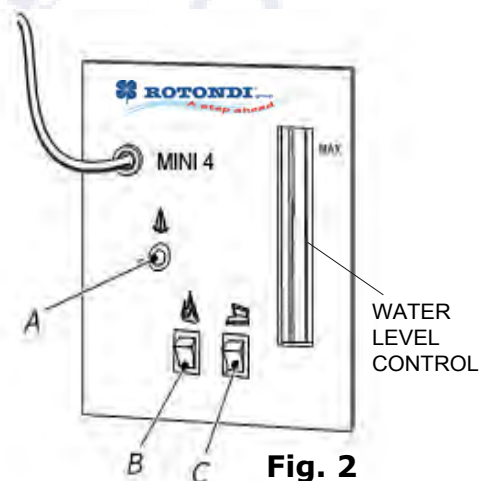
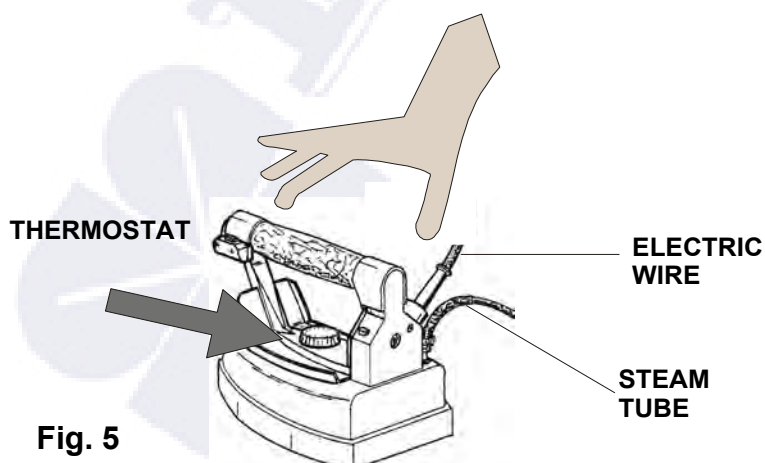
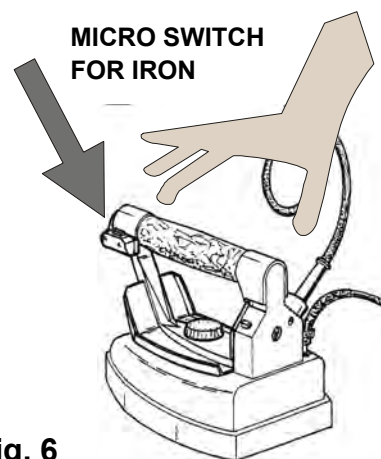

Fig. 2
Fig. 5
Fig. 6
3. Switch on the boiler (fig. 2 B), the iron (fig. 2 C) and adjust the thermostat (fig. 5) on "cotton".
4. Wait for the boiler lamp to switch off (fig. 2 A).
At this point seize the iron by cork handle and press red button 3 or 4 times (fig. 6), so that steam comes out: this operation must be carried out in order to heat up the tubes which take steam to the iron. In this way you prevent also the falling of small drops of water on garments.
To adjust steam flow, you must work on the hand-wheel for steam adjustment (fig. 3). During ironing operation, the boiler lamp switches on and off (fig. 2 A).
1. Run the iron on garments, pressing the iron microswitch (fig. 6) for steam. For a better result, set the thermostat (fig. 5) on "cotton".
4. For dry ironing it is possible to adjust the thermostat (fig. 5) on different positions according to the type of fabric (look at garment label). For steam ironing set the thermostat on "cotton" or "linen".
During the ironing, if steam flow decreases considerably and then ends definitely, it means that there is no more water in the boiler. So MINI 4 has to be switched off by disconnecting the plug; rotate the valve plug (fig. 3) of 360° and wait for steam to go out completely. Unscrew the valve plug with care and wait some minutes. Then fill the boiler with water (fig. 4). Screw the valve plug again, connect the plug and wait for the boiler lamp to switch off (fig. 2 A). Now the iron is ready again.